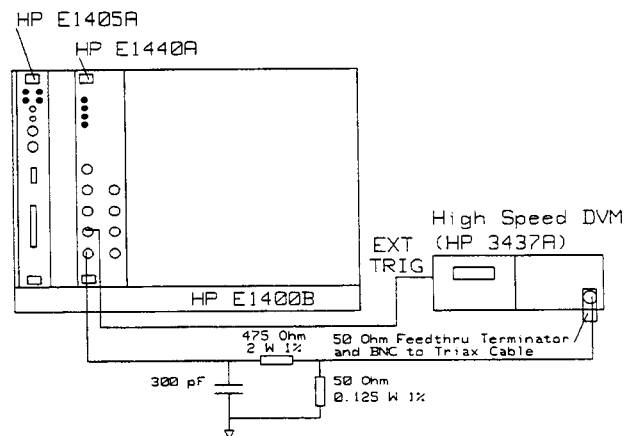

Figure C-9.
17. **High-Voltage Function Test.** Connect the equipment as shown in Figure C-9.
18. The voltage divider shown in Figure C-9 is built into a small metal box with 2 BNC connectors. Parts used are: